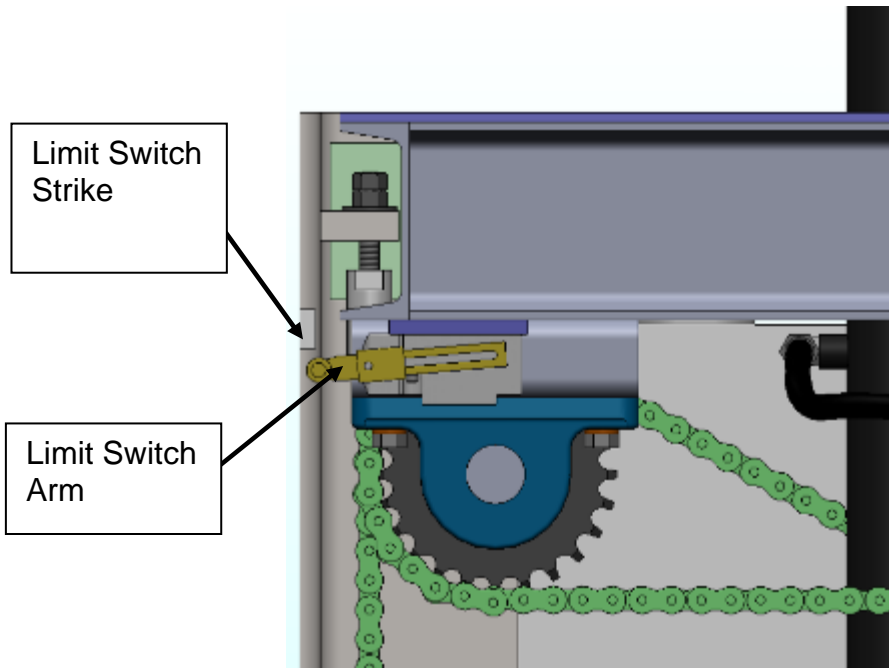

Figure 34 Upper Level Limit Switch and Strike
The upper level switch (reference **Figure 34**) stops the upward movement of the carriage at the desired elevation (there is always some over-travel allowance in the lifting cylinders). This limit switch is positioned to strike a bar on the left front (LF) or right rear (RR) corner guide when full travel is attained.